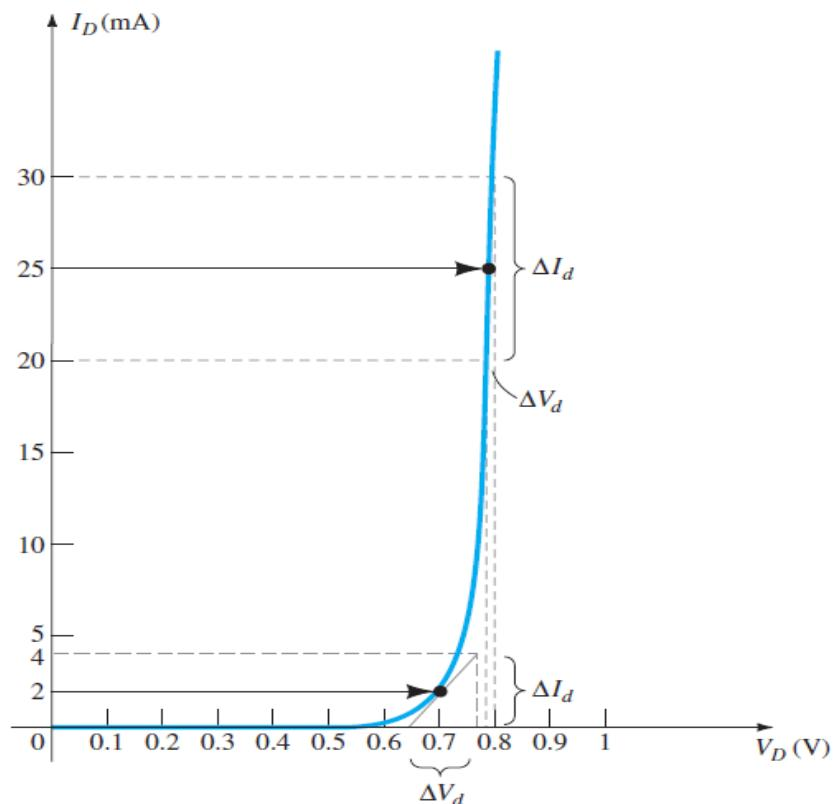

Fig. 5
Example 5: For the characteristics of Fig. 5:
b. For $ID = 25 \text{ mA}$, the tangent line at $ID = 25 \text{ mA}$ was drawn as shown in Fig. 5 and a swing of 5 mA above and below the specified diode current was chosen. At $ID = 30 \text{ mA}$, $VD = 0.8 \text{ V}$, and at $ID = 20 \text{ mA}$, $VD = 0.78 \text{ V}$. The resulting changes in current and voltage are, respectively,